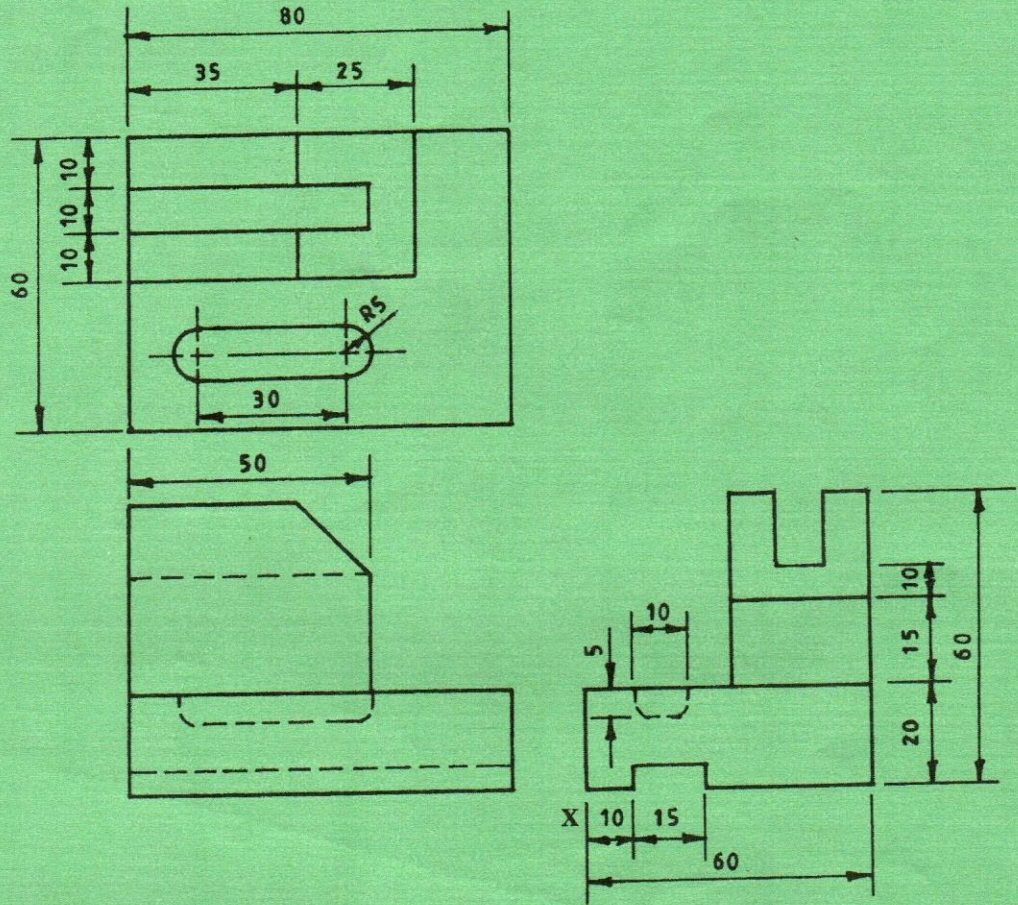

Fig. 5
8. Figure 5 shows two views of a bracket drawn in third angle projection. Draw full size the bracket in isometric projection taking corner X as the lowest point. (20 marks)